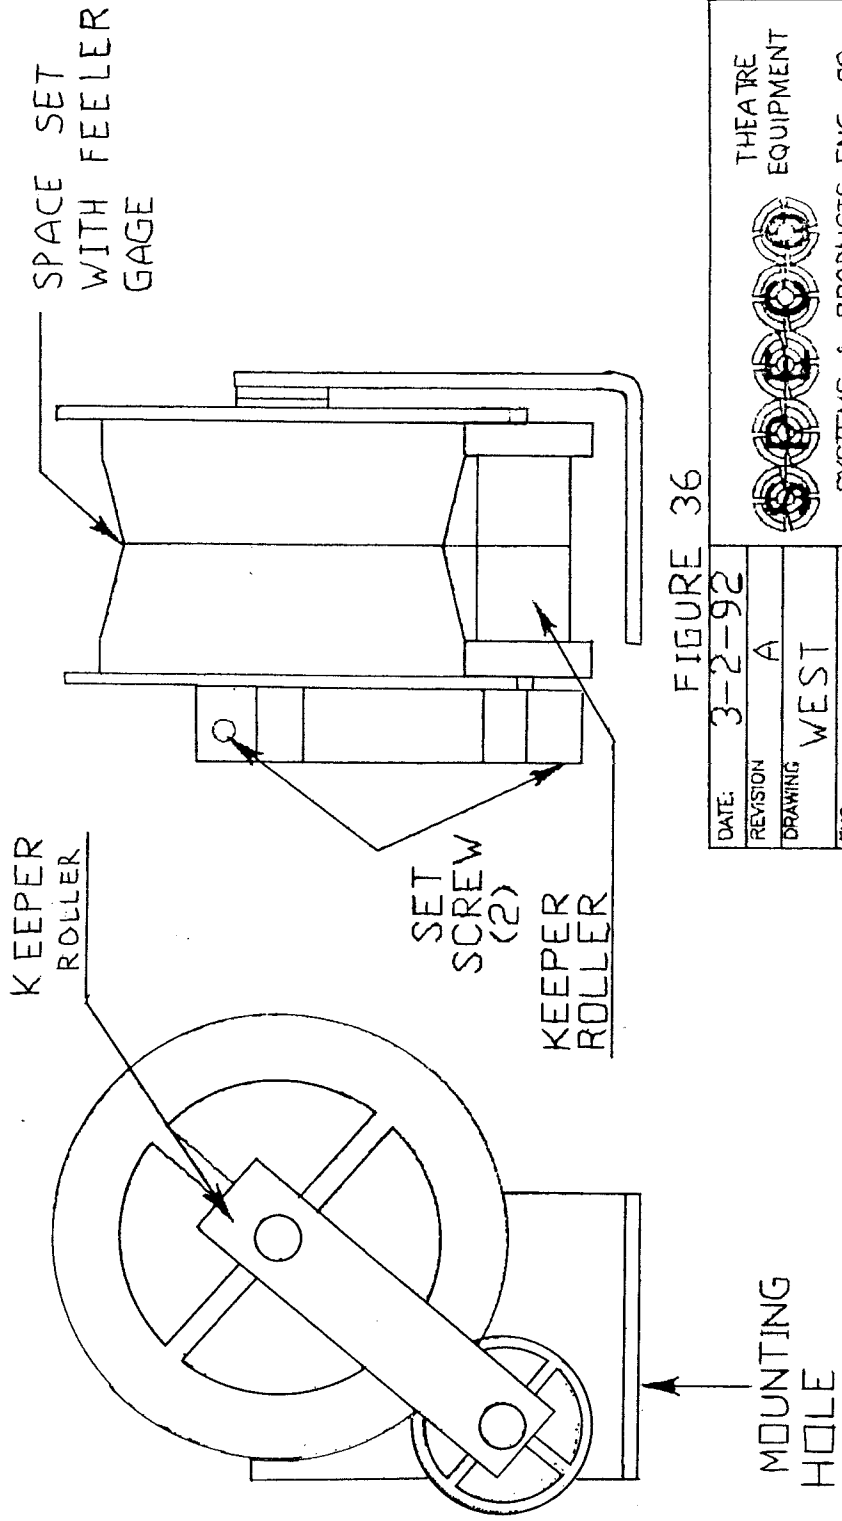

FIGURE 36
1. Use a 2 inch long piece of 35MM film and fold it in half. This becomes the Feeler Gage for setting the spacing of the 2 inch roller. Install the Keeper Assembly as shown in Figure 36. Place the Feeler Gage between the two half's of the 2 inch roller. Align the Keeper Bar as shown in Figure 36. The Keeper Roller should be to the bottom left of the 2 inch roller. With the Keeper Bar in position tighten the set screw on the 2 inch roller side of the Keeper Bar. Make sure the set screw on the other end of the Keeper Bar is also tight. Remove the Feeler Gage from the 2 inch roller. Spin the 2 inch roller, it should move freely. If roller does not spin freely, insert 3 layers of film to allow for more space.